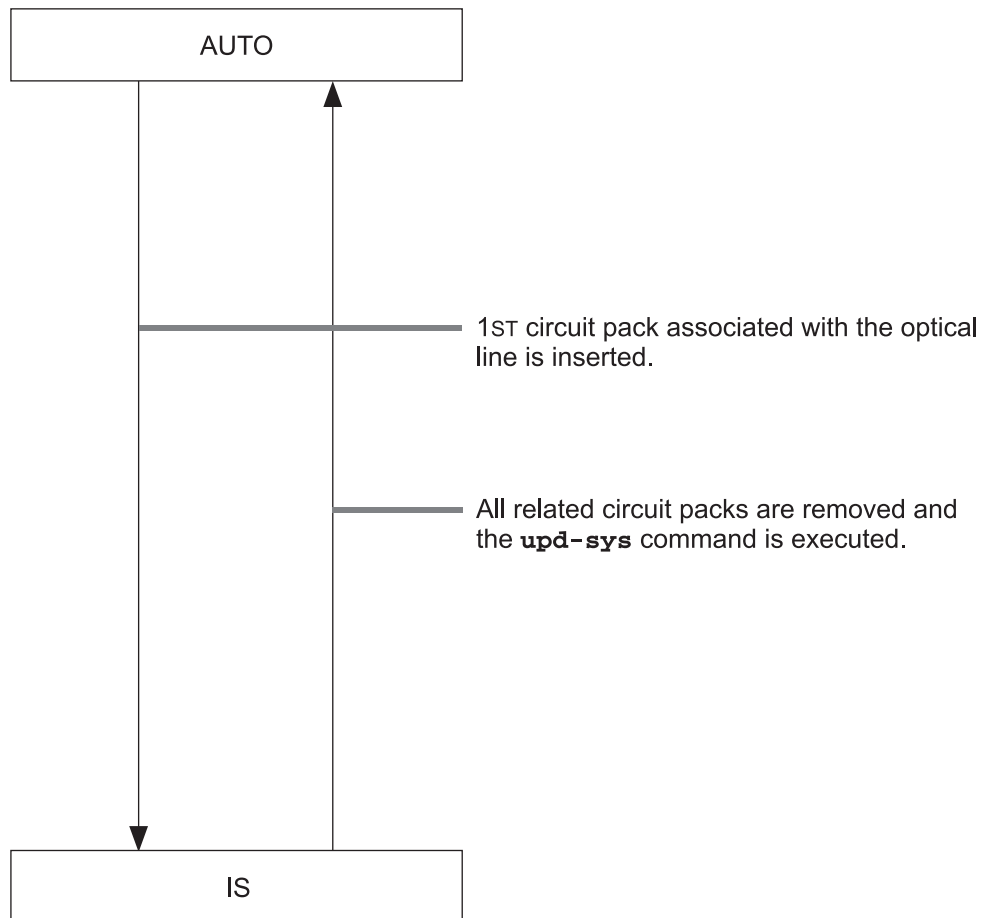

Figure C-4. Optical Line States
■ Figure C-4: Optical Line States	C-6